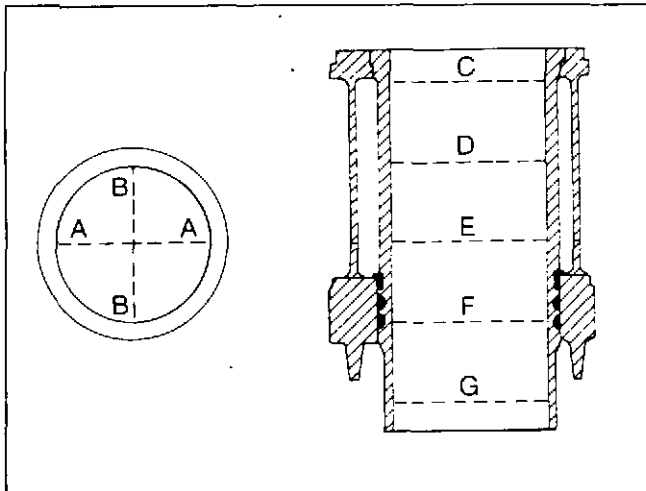

Fig. 1-9 (V401105). Cylinder Liner Check Points.
- "F" and "G". Measure each point in the direction "AA" and "BB" as shown in Fig. 1-9.